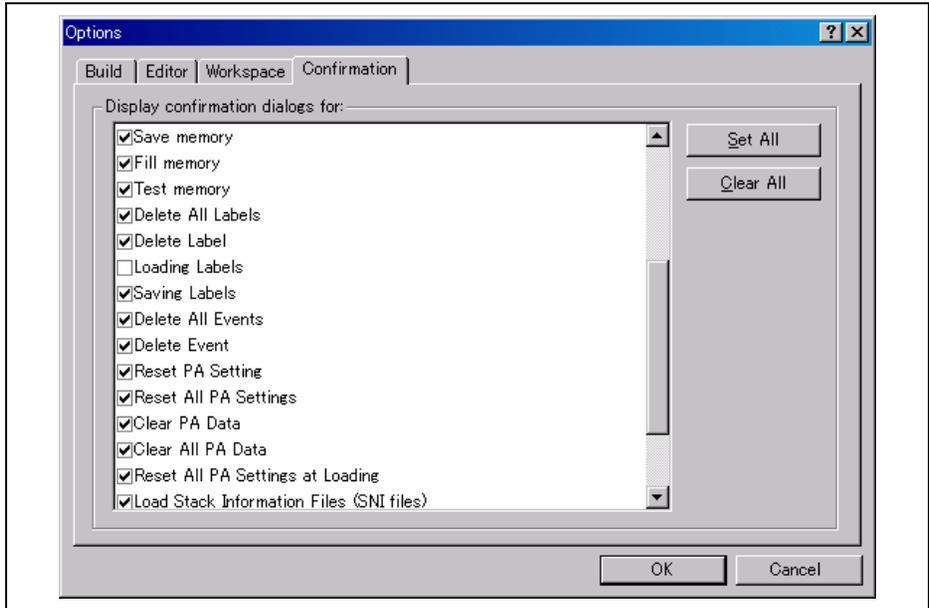

Figure 5.83 [Options] Dialog Box
- The [Load Stack Information Files (SNI files)] check box is checked in the [Confirmation] sheet of the [Options] dialog box (figure 5.83) that can be opened by choosing [Tools ->Options] from the main menu.